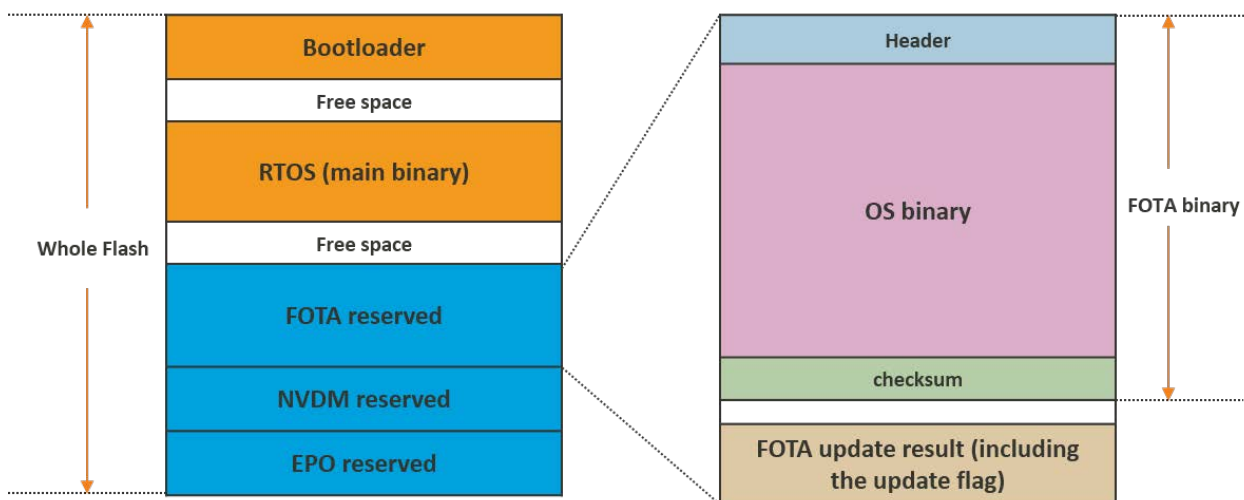

Figure 11. FOTA binary reserved memory
There is a power failure protection for the OS binary (main binary) update. Before the OS binary update, the Update Agent writes a marker to the flash, as shown in Figure 11. After the OS binary update is complete, the marker is cleared from the flash. If power failure occurred during the OS binary update, the **Update Agent** checks marker to restart the process.
- 2) In Device Manager, navigate to **Ports (COM & LPT)** (see Figure 11).
- 4) A new COM device should appear under **Ports (COM & LPT)** in Device Manager, as shown in Figure 11. Note the COMx port number of the **USB Serial Port**, this information is needed to complete configuration of PuTTY.